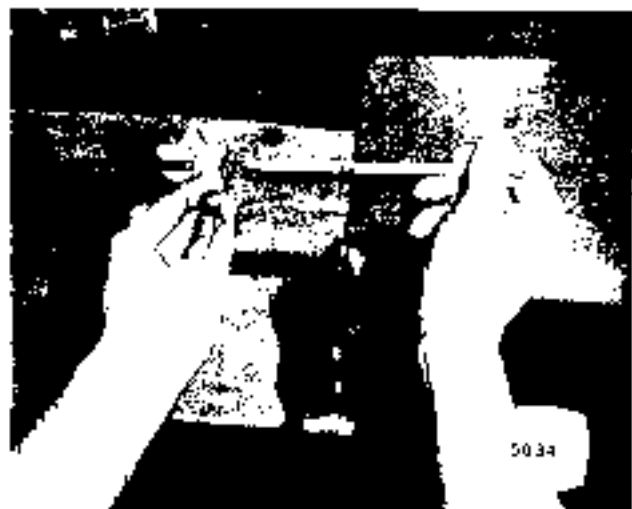

Figure 3-33. Gear Alignment
- Position seal (18) and the cap locator bushing (17) (with large O.D. chamfer up) partly into end of housing, insuring that it seats flat against spool assembly. Check by rotating with finger tips.
- Check the mounting plate (14) and shaft seal (16) carefully to insure that they are clean and in good condition. Insure that the mounting plate seal grooves are clean and smooth. (Each of these seals is slightly larger than its seal groove so that they will be adequately retained in service.) Push each gently into place and smooth down into seal groove with finger tip.
- This oil seal (15) at exterior of mounting plate is a dirt exclusion seal and does not usually need replacement. If this is replaced it should be pressed into counterbore so that the lip is directed away from the unit.
- Place the mounting plate sub assembly over spool shaft and slide down into place over cap locator bushing smoothly, so that seals will not be disrupted in assembly. Align bolt holes with tapped holes. Be certain that the mounting plate rests fairly flush against end of housing assembly, so that the cap locator bushing is not cracked, and install four mounting plate cap screws (13). Tighten evenly and gradually to a torque setting of 250 pound inches.
- Place the plate (7) on the housing and align the plate bolt holes with the tapped holes in the housing.
- Place the meter gear ring portion of the generator set (6) on the assembly and align the bolt holes.
- Insert the splined end of drive shaft (9) into the meter gear set portion of the generator set (6) so that the slot at the control end of the drive is in alignment with the
- valleys between the meter gear teeth (see figure 3-33).